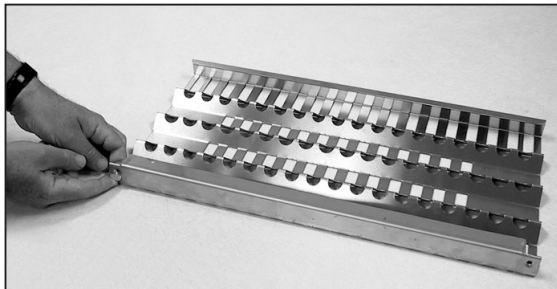

FIG. 12
2. Unlock radiant end cap by pushing it up with two fingers (Fig. 12).
- a) Unlock radiant end cap by pushing it up with two fingers (Fig. 12) or pliers may be used.